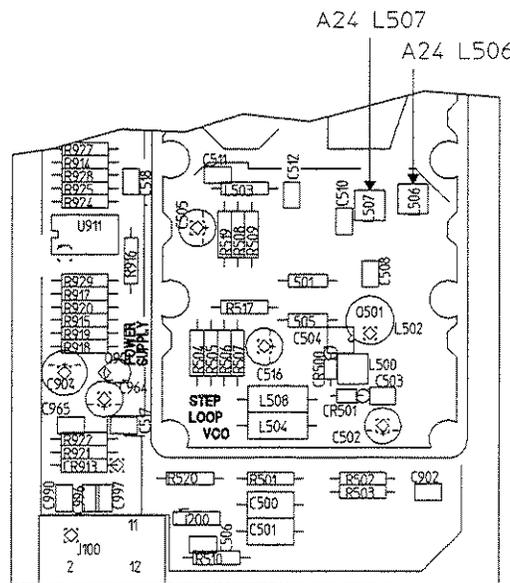

Figure 1-6. A24 Step VCO Component Locator
e. Through the holes in the shield can, alternately adjust A24 L506 and L507 (see figure 1-6) for a flatness (maximum amplitude minus minimum amplitude) of less than 3 dB(p-p). During this adjustment, periodically clear the spectrum analyzer's maximum hold function.